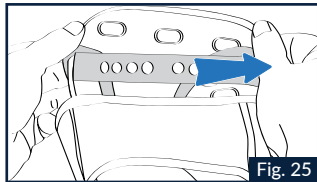

Fig. 25
1.2 with the rear circular button located below the padding (Fig.25). By pulling the two adjustment snaps of the liner, the helmet is gradually positioned higher on the head.